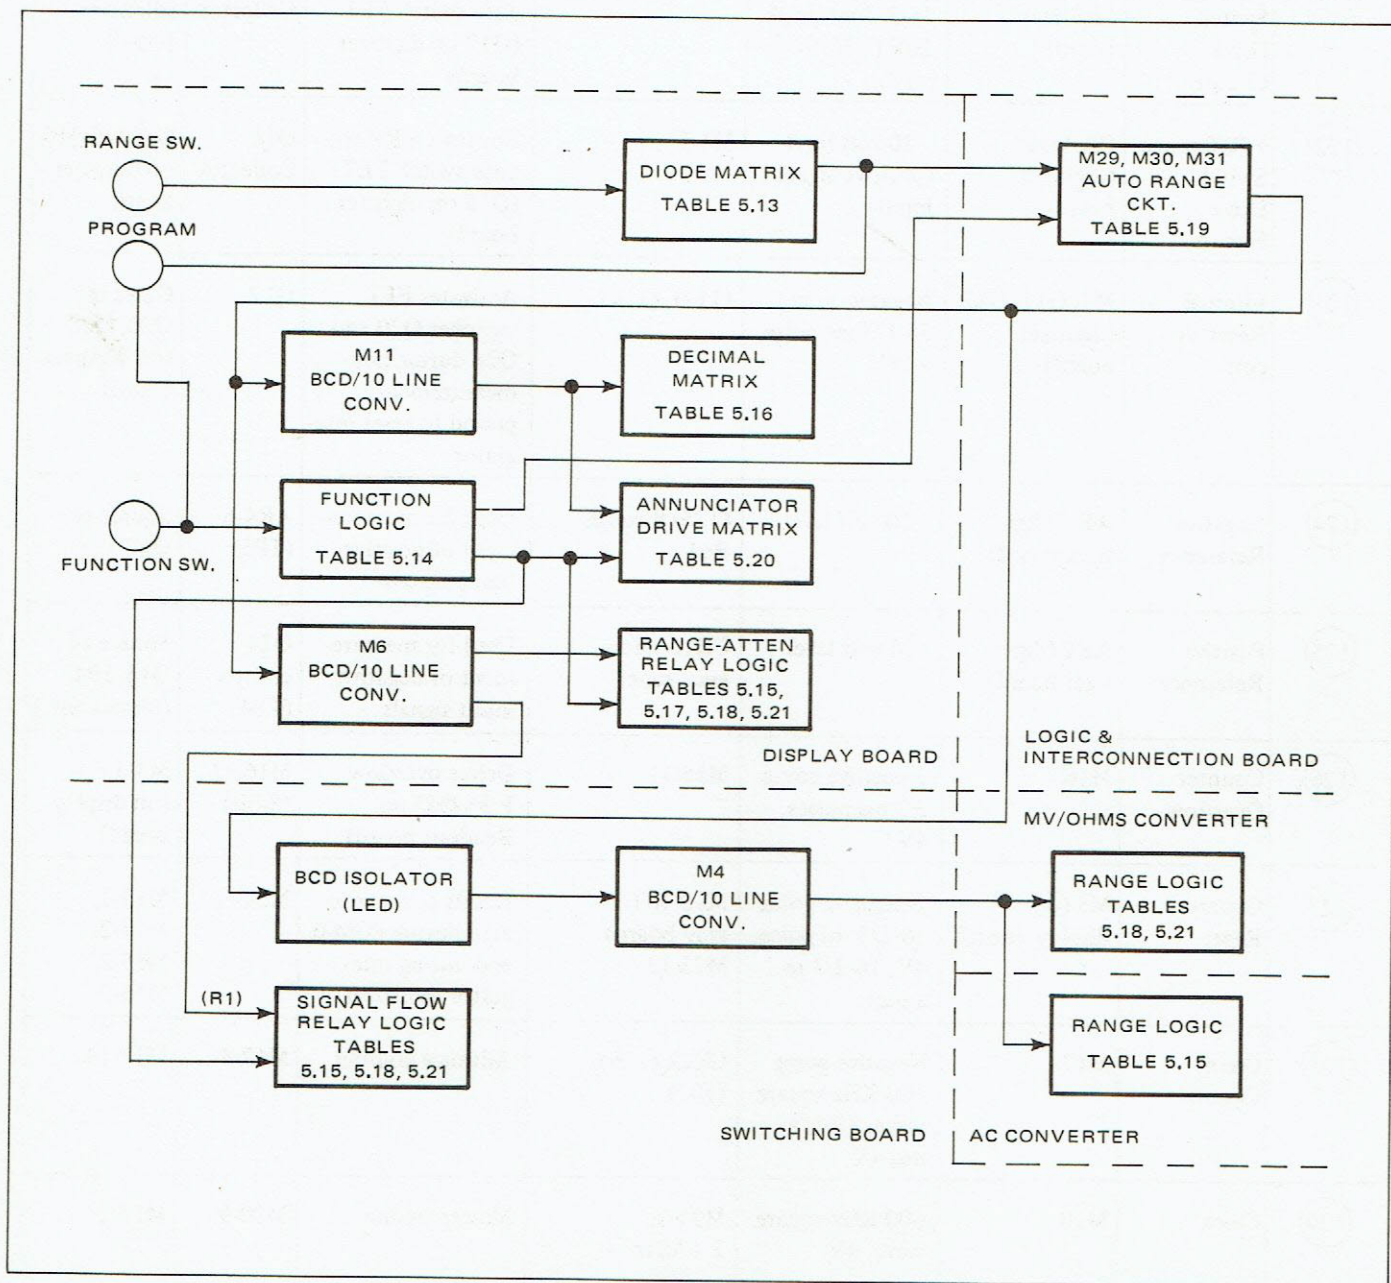

Figure 5.8 - Signal Flow Diagram
5.40 The routing of range logic throughout the instrument is shown in figure 5.8. The tables indicated in the blocks provide the output at important stages of the flow. (1's indicate logic true states, X's indicate the energizing of the component).